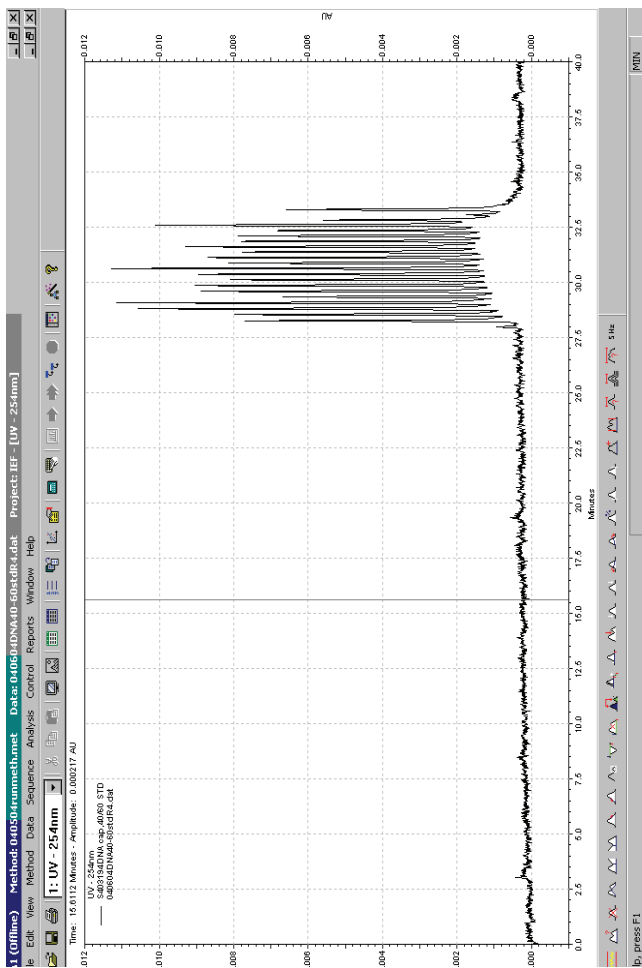

Figure 6 Electropherogram of pd(A) 40-60 Test Mix.
The pd(A) 40-60 Test Mix as used should give a baseline separation of all the oligonucleotides in 35 minutes (when using a 30.2 cm capillary at a field strength of 300 V/cm) as shown in Figure 6. Peak intensity may vary due to batch-to-batch variation. Refer to the electropherogram provided with the test mix to check your results. The current should remain fairly stable and run between 6 and 8 μ A.